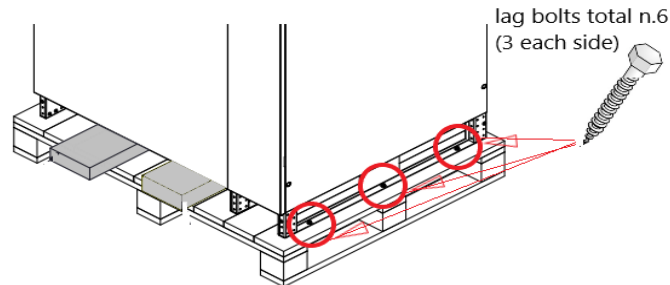

Fig. 2 - lag bolts
- 2) Remove N.6 10mm lag bolts securing the cabinet to the pallet. (N.3 for side see Fig. 2).